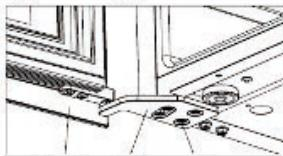

Figure 5
- Install the right upper hinge ③ and screw tight the M5*16 screws ②.[Figure 5]